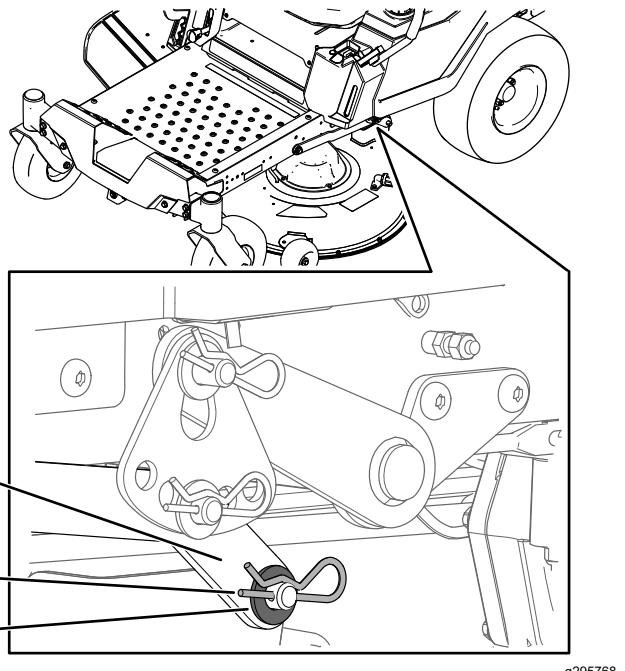

Figure 71
- On 1 side of the machine, remove the washer and hairpin cotter from the deck pin (Figure 71).
- Remove the lift arm from the deck pin (Figure 71).
- On 1 side of the machine, lift the rear of the mower deck and install the lift arm to the deck pin (Figure 71).
- Install the lift arm using the washer and hairpin cotter (Figure 71).